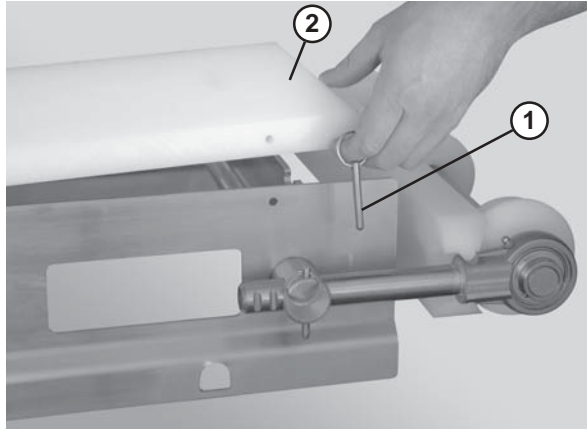

Figure 37
1. Remove the guides, if applicable, by removing the pull pins (**Figure 37, item 1**) that connect the guide (**Figure 37, item 2**) to the frame.